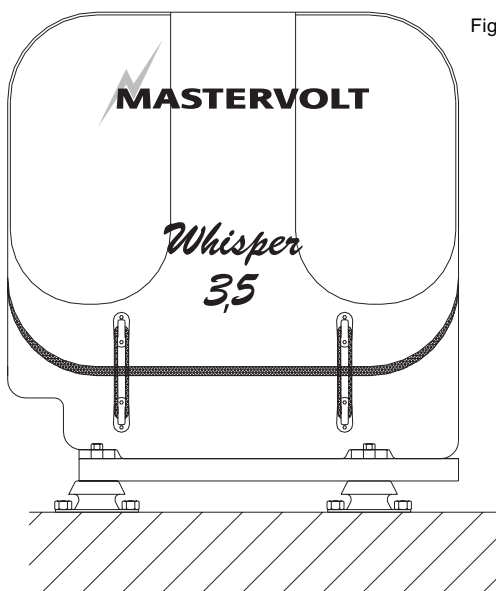

Fig. 12.
- 1 Install a steel foundation plate between ship's hull and generating set, with 4 shock mounts (ref. to fig. 12) 'foundation plate'.